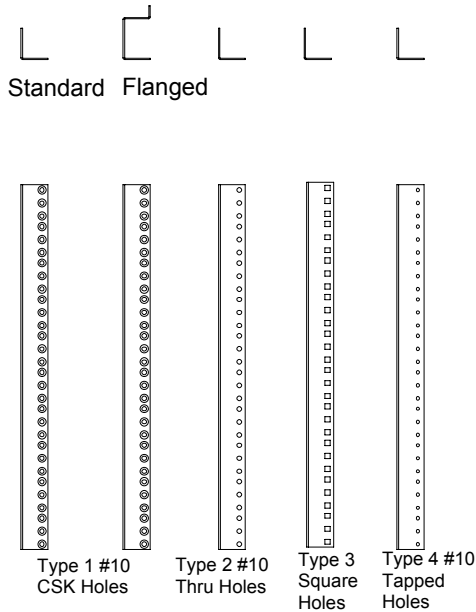

Figure 4 Selecting a rail type
2. Select your rail type. See Figure 4.